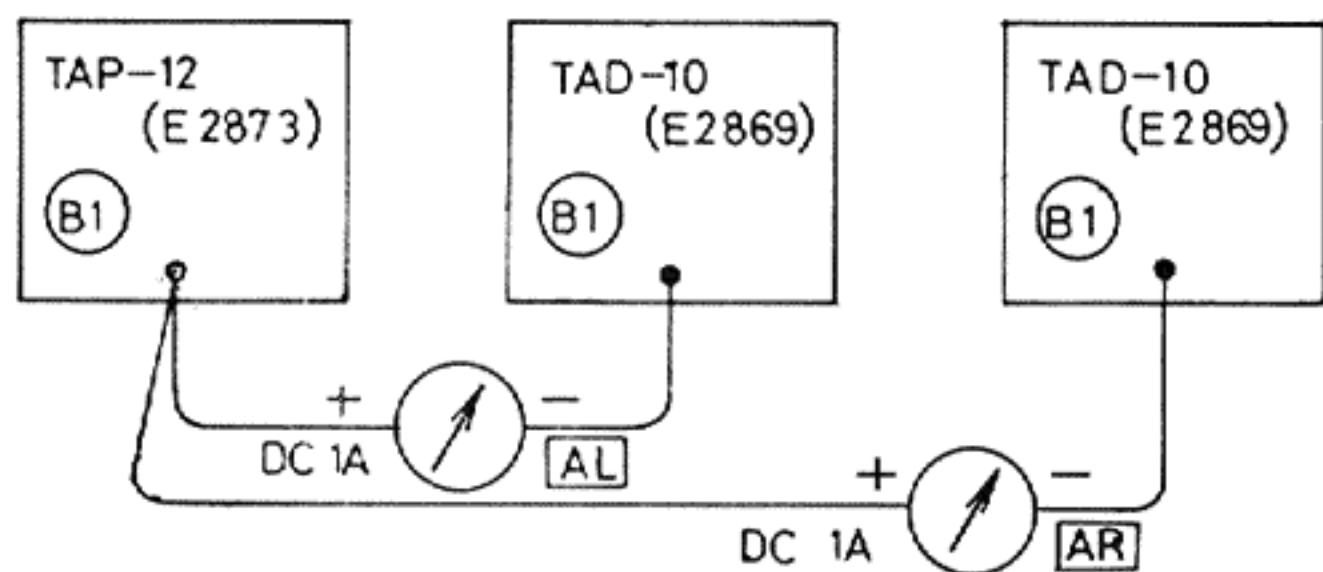

Fig. 16
- Connect an 1A D. C. amperemeter [AL], [AR] in series with B_1 wirings for L. channel and R. channel respectively as shown in Fig. 16.